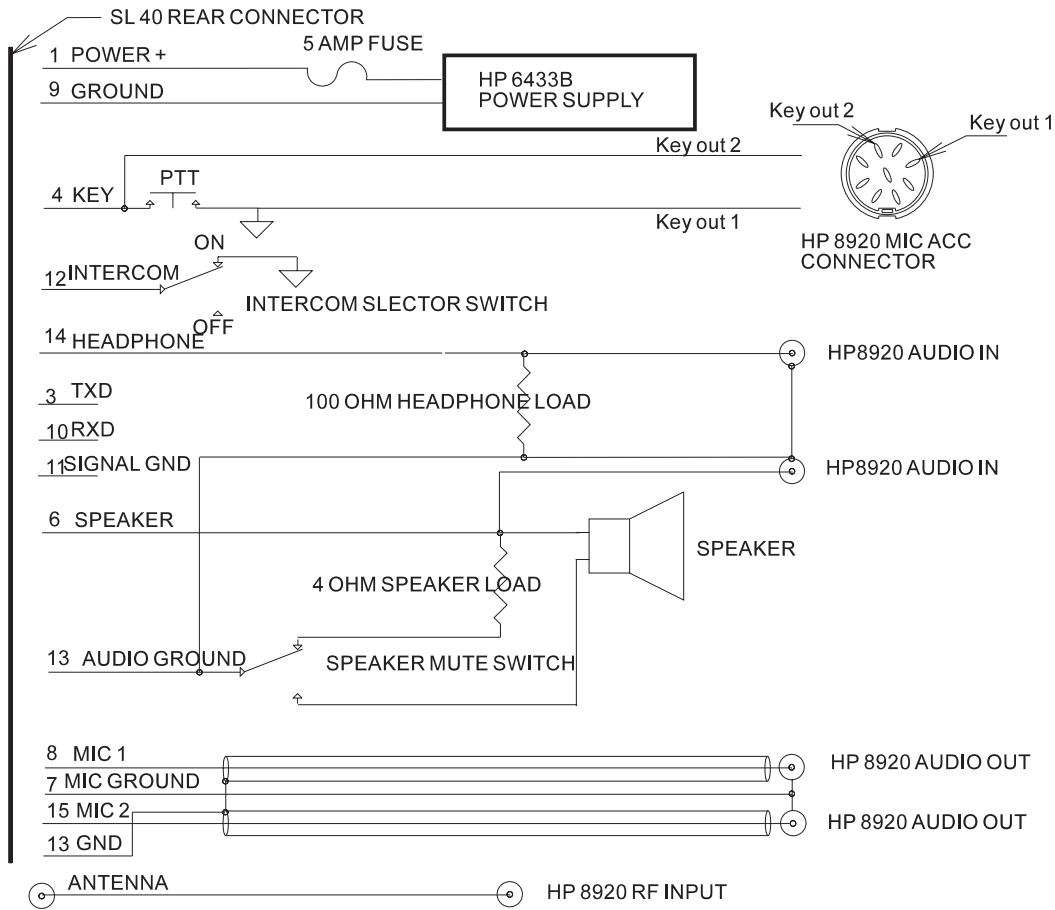
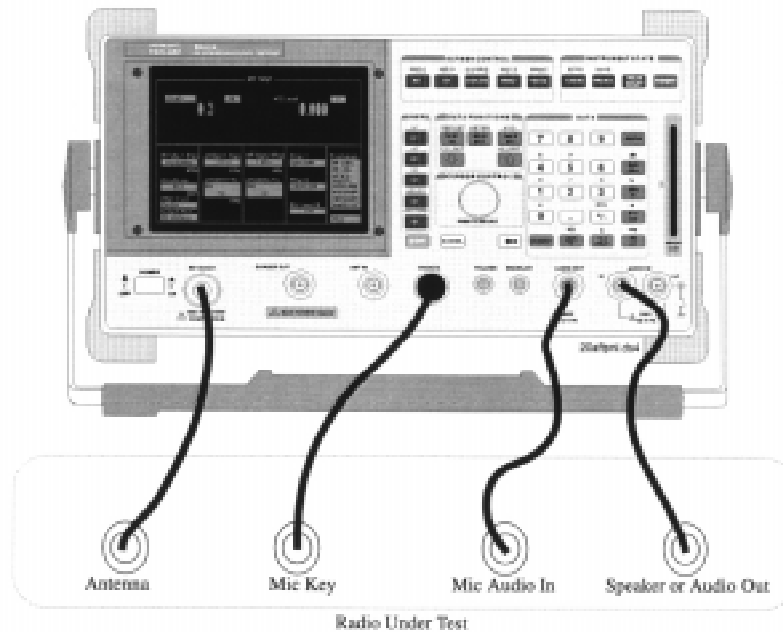

Figure 2. Test Setup Diagram
Figure 3. Equipment Connection
A schematic of the SL40 transceiver test setup is shown in Figure 2. Figure 3 is a graphic presentation of the recommended equipment connected for test.
1. Set the HP 8920 as listed below. Use Figure 3 and Figure 4 as guides.